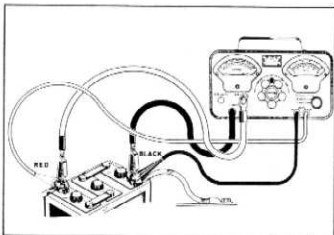

Fig. 11—Battery Capacity Test
1. Connect positive ammeter lead of Volts Amperes Tester to positive post of battery (fig. 11).